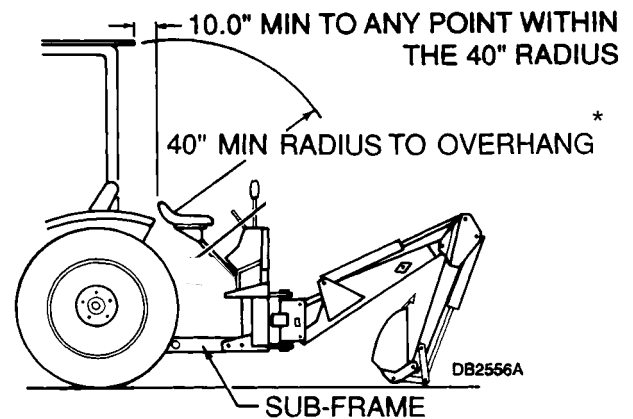

Figure 1 Sub-Frame Clearance
■ This mounting kit is designed to provide secure mounting and adequate operator clearance when properly installed. Check clearance dimensions shown in figure 1 to be sure you have installed mounting kit correctly. Follow all mounting instructions in this manual. Do not operate backhoe unless there is adequate clearance. Failure to check and comply with these instructions may result in serious injury or death.